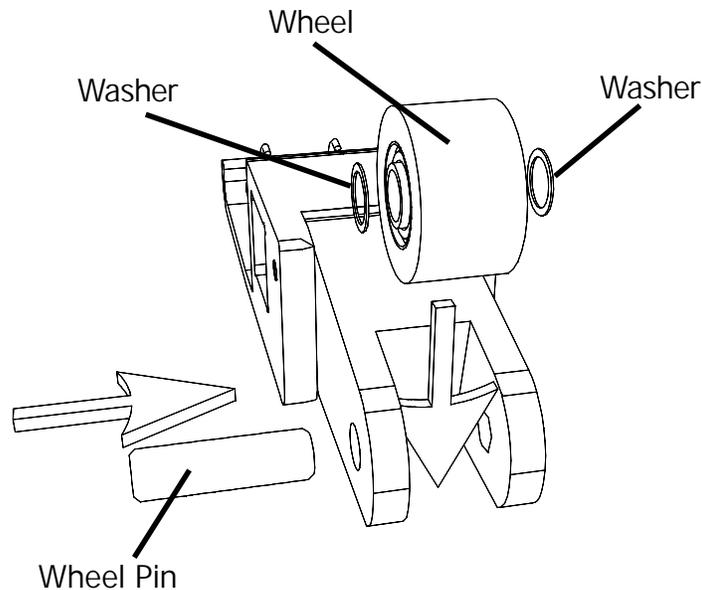

Fig. 4 - Place washers on either side of the wheel before inserting the pin
- 1) The washers will be installed on either side of the wheel (See Fig. 4).